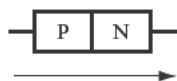

FIGURE 2.3
- 3 Diodes are useful because electric current can flow through a PN junction *in one direction only*. Figure 2.3 shows the direction in which the current flows.